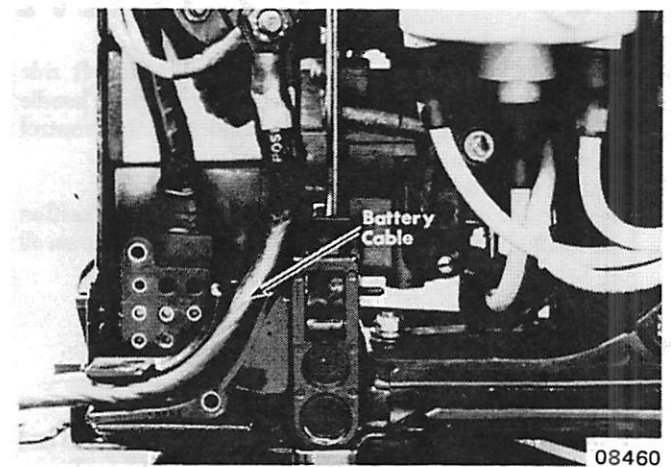

Figure 7. Battery Leads (Cable) in Position
5. Check location of battery leads which **MUST BE** positioned as shown in Figures 7 and 8 to prevent chaffing the insulation.